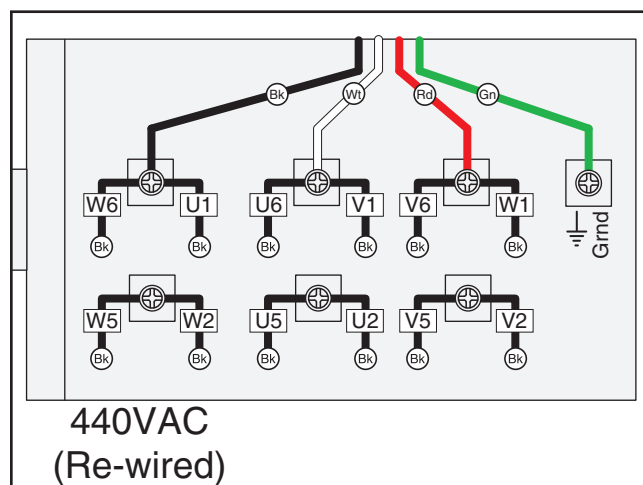

Figure 5. Model G0637 motor re-wired for 440V.
6. Rewire the motor wires for 440V and attach the new motor cord, as illustrated in **Figure 5**.